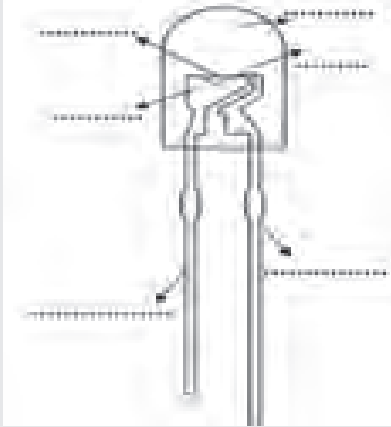

Fig. 2.58
2. Identify the parts of Light Emitting Diode (LED) in Fig. 2.58.